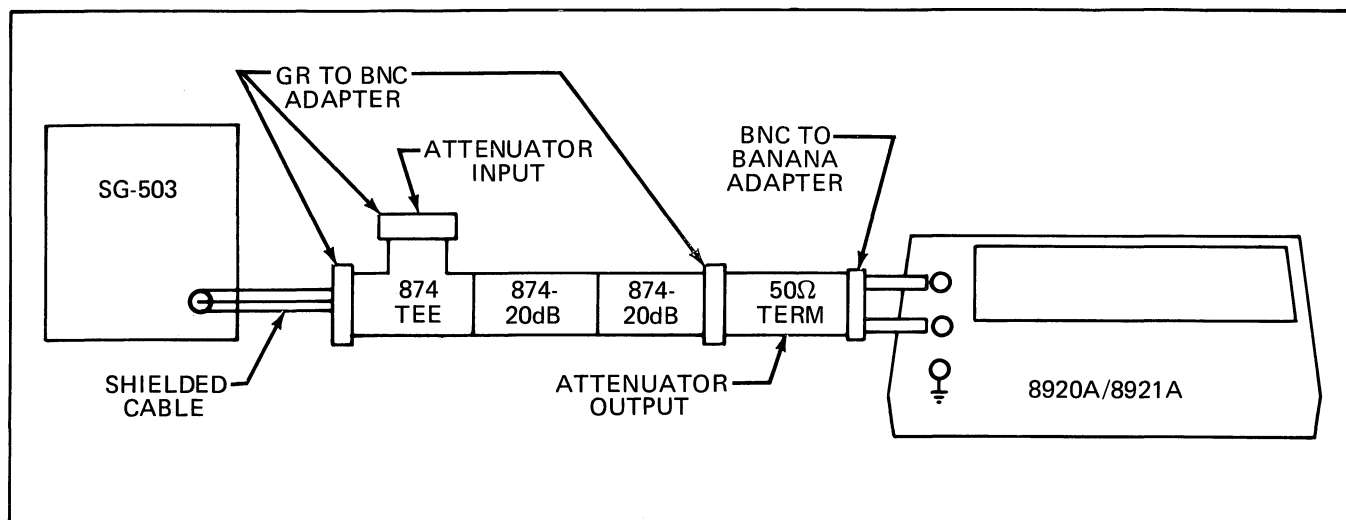

Figure 4-3. AC Low Level Check Test Set-Up
4-22. This procedure will verify that the UUT's low level AC performance meets the specifications of Section 1. Set up the test equipment as shown in Figure 4-3 and complete the AC Low Level Calibration procedure. Replace steps 2-d and 2-e with the following:
- 1-b. Set up the test equipment as shown in Figure 4-3.